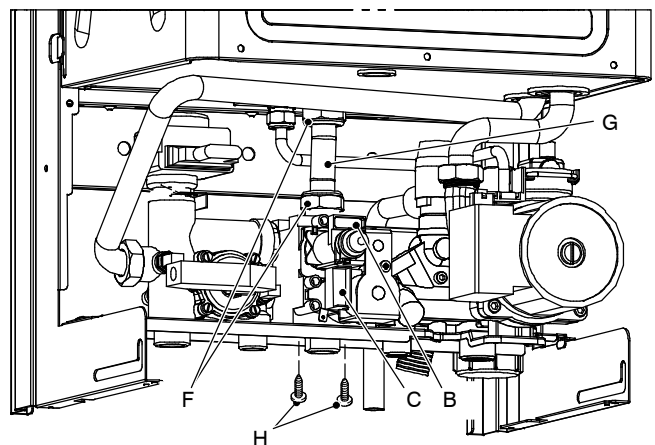

Fig. 49
- 2 Disconnect the connectors *B* (Fig. 49) from the modulating operator and measure the electrical resistance of the coil. Its electrical resistance value must be approx.  $80 \Omega^*$ .
- 2 Disconnect the electrical connector *C* (Fig. 49).
- 2 Disconnect the connectors *B* and *C* (Fig. 49).